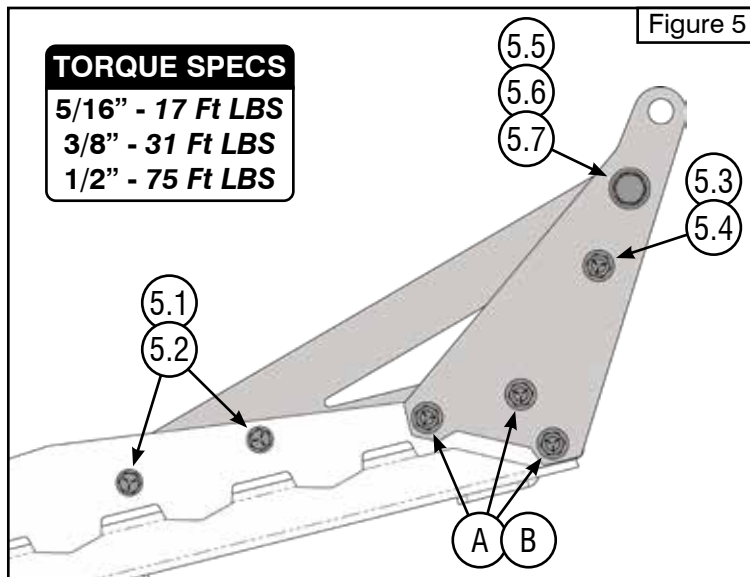

Figure 5
6. Once all hardware is started, tighten all hardware evenly. See **Figure 5**.